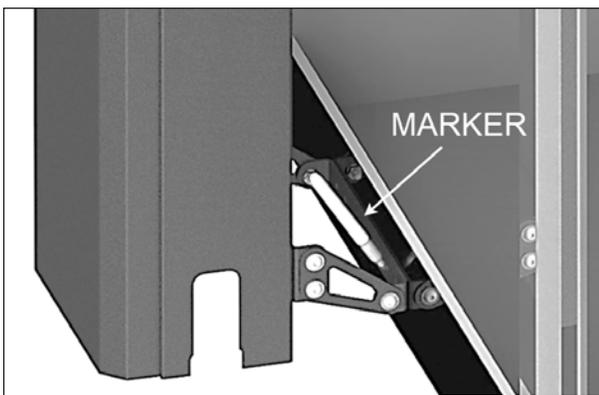

FIGURE 85: MARKING POSITION OF HOLES
17. Push the bottom tub mount bracket against the spa plastic frame and use it as a template to mark the holes for all four posts see Figure 85.
20. Using the included 9/32" drill bit, drill the holes marked in step 17 (Figure 85 and Figure 86).